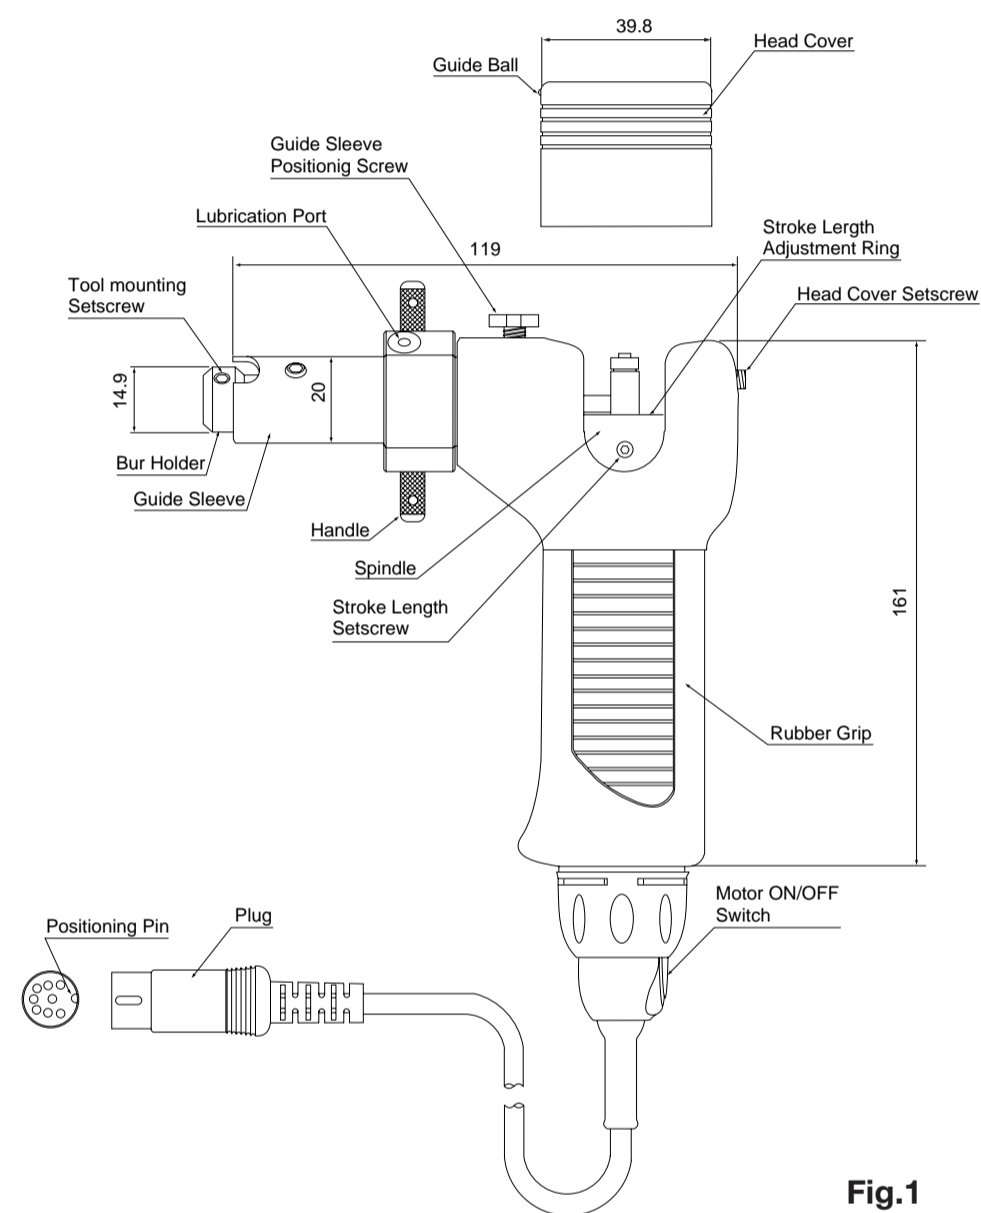

Fig.1
- Align the cord plug with the jack of the control unit and push in. (Fig.1)
ON/OFF of the motor can be made either at the grip or at the control unit. (Fig.1)
- Loosen the head cover setscrew with the supplied hex key (2 mm) (Fig.1).
- Slide the head cover upward and remove. (Fig.1).
- Fasten the head cover setscrew with the hex key (2 mm) (Fig.1).